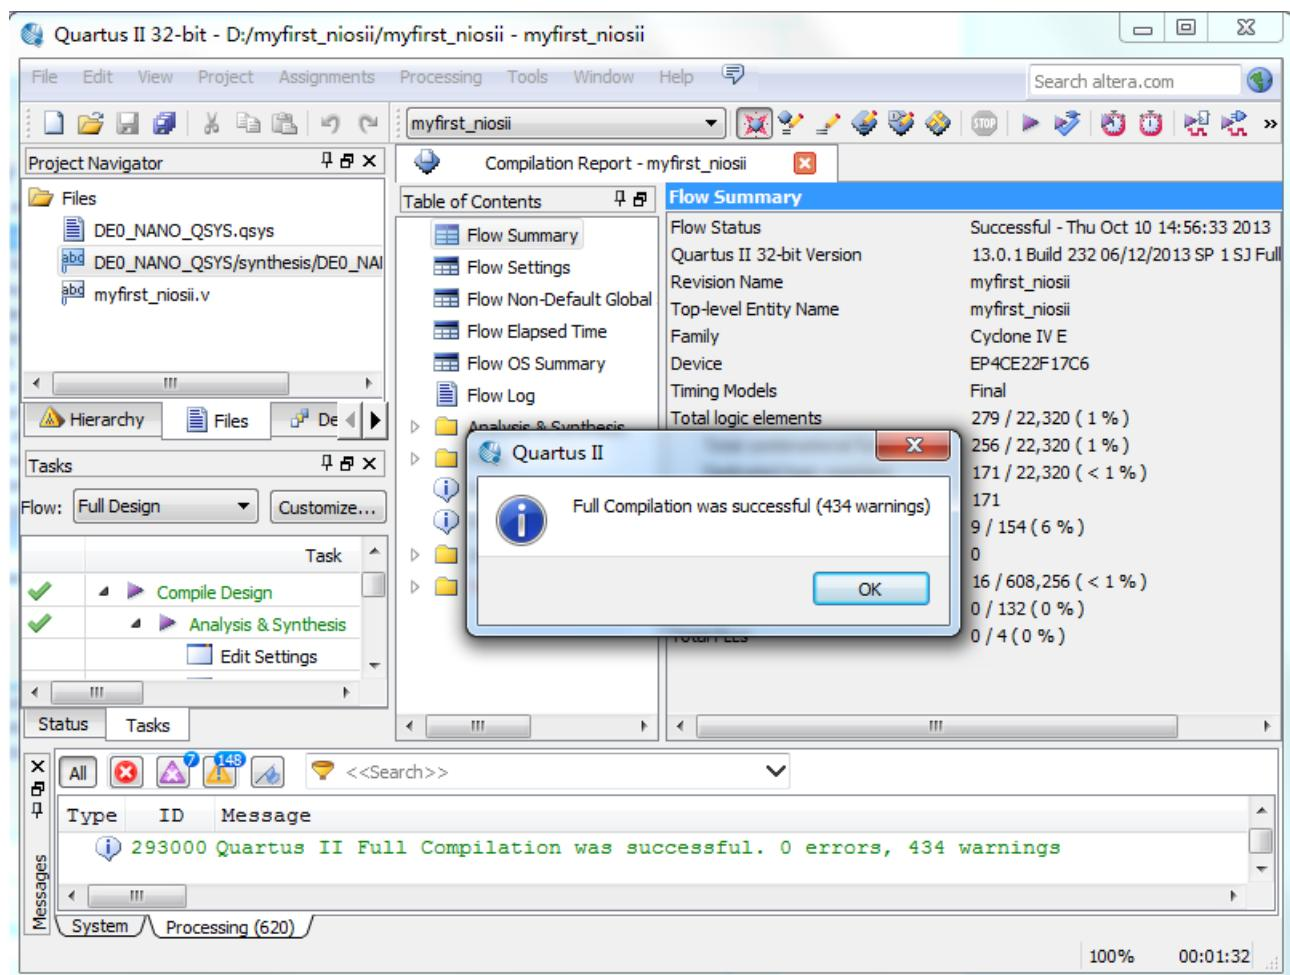

Figure 1-64 Compilation project completely
38. A window that shows successfully will appear as shown in **Figure 1-64**.